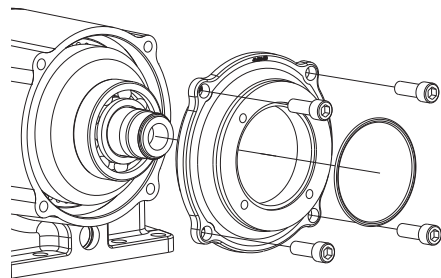

Figure 3 – Output Cover Removal
5. Remove the output cover (22) by removing the O-ring (25) and the four socket capscrews (23) using a 5/16" Allen wrench. *See Figure 3*